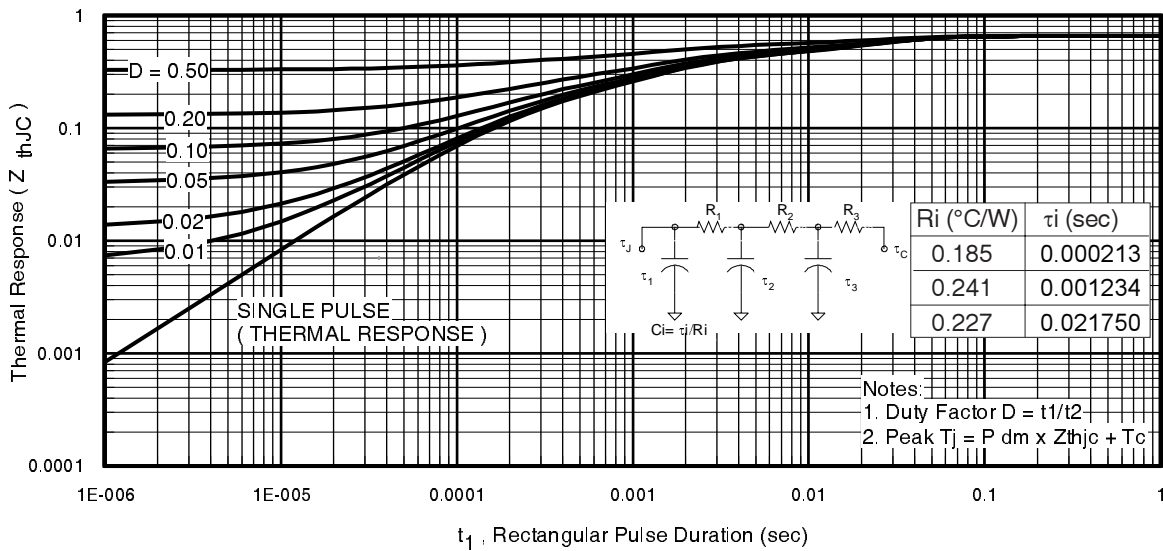

Fig 11. Maximum Effective Transient Thermal Impedance, Junction-to-Case
- ① Repetitive rating; pulse width limited by max. junction temperature. (See fig. 11).
- ② Limited by T_{Jmax} , starting $T_J = 25^\circ\text{C}$, $L = 0.079\text{mH}$, $R_G = 25\Omega$, $I_{AS} = 75A$, $V_{GS} = 10V$. Part not recommended for use above this value.
- ③ Pulse width $\leq 1.0\text{ms}$; duty cycle $\leq 2\%$.
- ④ $C_{oss\text{ eff.}}$ is a fixed capacitance that gives the same charging time as C_{oss} while V_{DS} is rising from 0 to 80% V_{DSS} .
$Z_{thJC}(D, t_{av})$ = Transient thermal resistance, see figure 11)